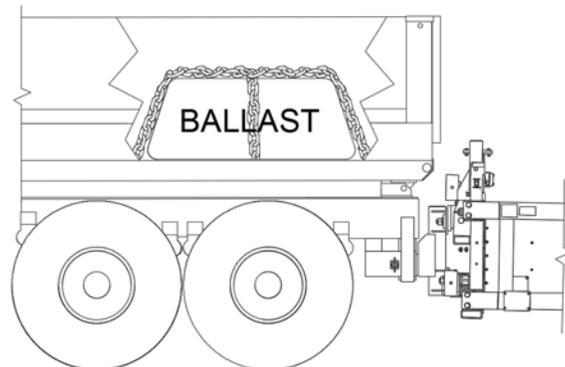

Figure 6
7. Ballast and other heavy objects **MUST BE ADEQUATELY ANCHORED** to the truck to prevent shifting during an impact (Figure 6). The force exerted on the tie-down straps could be 20 times the weight of the ballast.